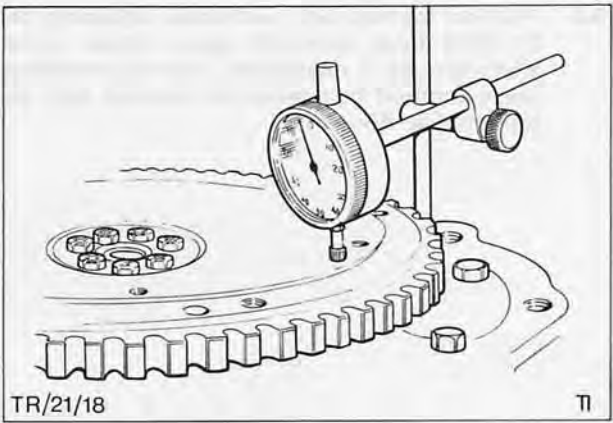

Fig. 88. Check flywheel run-out
66. Fit back plate and flywheel, tighten bolts as specified in Technical Data and check for run-out, Fig. 88.